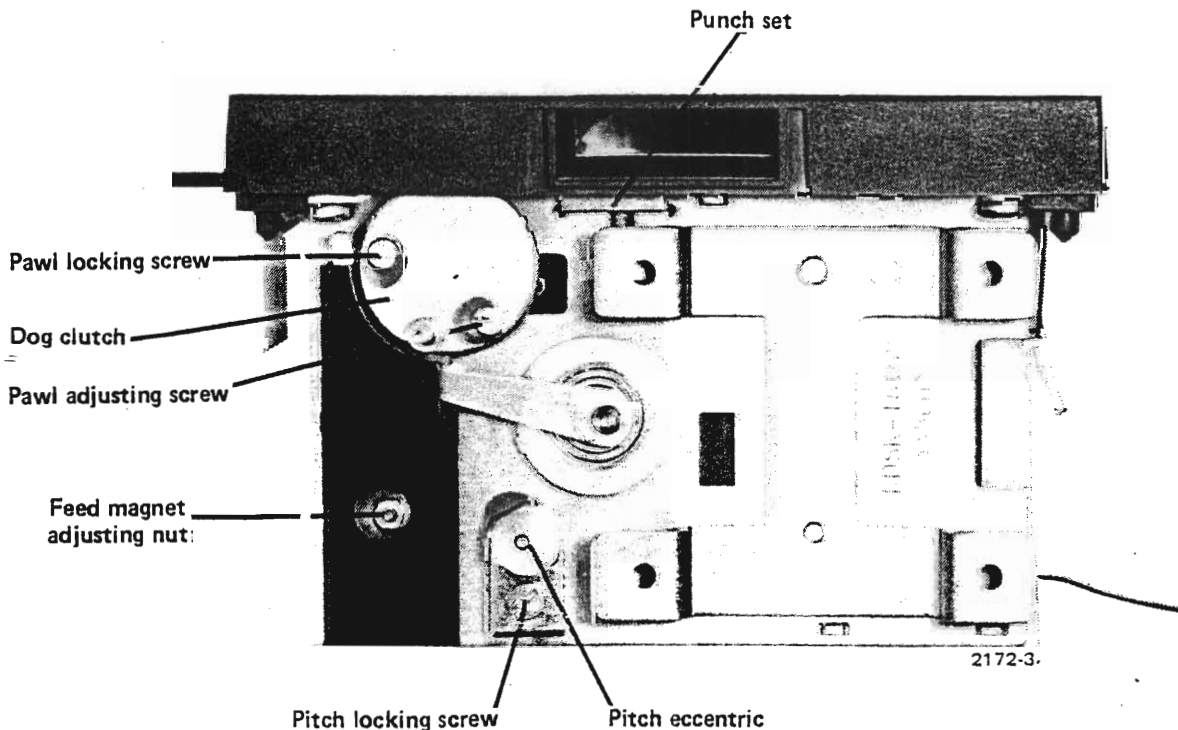

Fig. 6.8 Adjustments
- b) Loosen the pitch locking screw (Fig. 6.8).
- c) Maintaining a light backwards tension on the tape, turn the pitch eccentric on the side of the punch until the holes are aligned (see Fig. 6.8). NB: for ISO punch sets, the eccentric should be at approx. 9 o'clock, for TTS, 11 o'clock.
- a) Loosen the locking screw (see Fig. 6.8).
- Adjust the nut (Fig. 6.8), so that the feed pawl is touching the face of the jockey wheel. Then turn the adjusting nut another 1/4 turn clockwise.